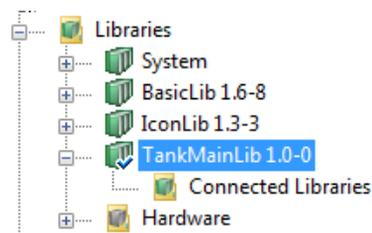

Figure 48. Library with sub folders
2. To the library (see Figure 48), add the following: